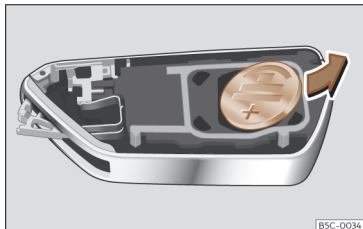

Fig. 74 Vehicle key: removing the battery.
- Extract the battery from the compartment using a suitable thin object >>> **Fig. 74**.
- Insert the new battery and press it into the battery compartment >>> ①.